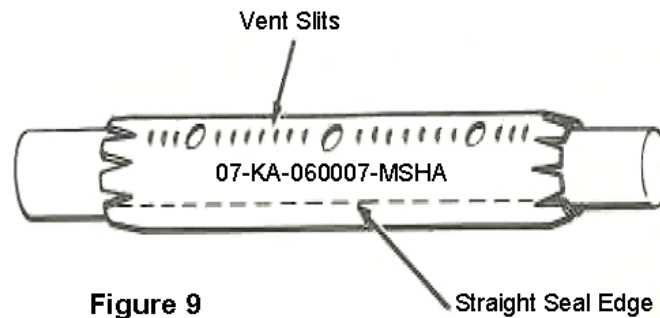

Figure 9
1. With cable straight, center mold over repair area with vent slits on top (printing on mold should be readable). Wrap snugly around, tucking one edge under. (Figure 9)